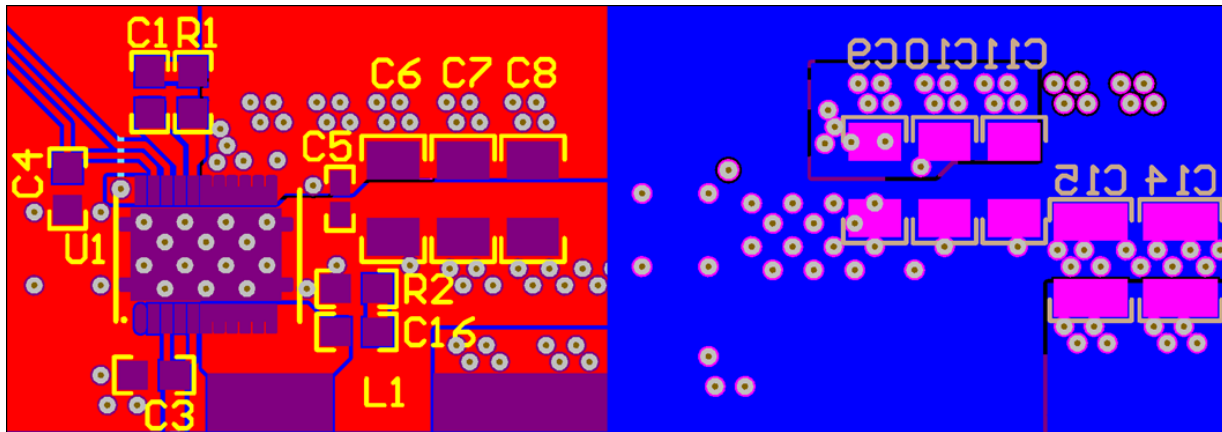

Figure 18. Recommended PCB Layout (Top-Down View)
- The placement of the input capacitors relative to V_{IN} and P_{GND} pins of CSD95373AQ5M device should have the highest priority during the component placement routine. It is critical to minimize these node lengths. As such, ceramic input capacitors need to be placed as close as possible to the V_{IN} and P_{GND} pins (see Figure 18). The example in Figure 18 uses 1 × 3.3 nF 0402 50 V and 6 × 10 µF 1206 25 V ceramic capacitors (TDK Part # C3216X7R1C106KT or equivalent). Notice there are ceramic capacitors on both sides of the board with an appropriate amount of vias interconnecting both layers. In terms of priority of placement next to the Power Stage C5, C8 and C6, C19 should follow in order.
(1) Keong W. Kam, David Pommerenke, "EMI Analysis Methods for Synchronous Buck Converter EMI Root Cause Analysis", University of Missouri – Rolla
- Use the smallest drill size allowed in your design. The example in Figure 18 uses vias with a 10 mil drill hole and a 26 mil capture pad.